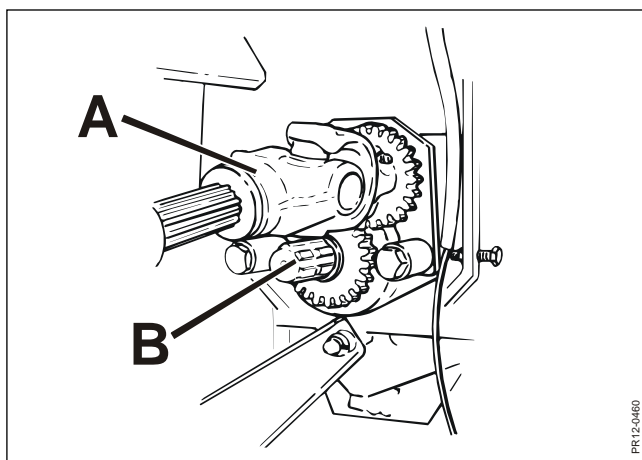

Fig. 6-9
- Fig. 6-9** 2) Move the PTO shaft **A** from the rotor to the alternative pin in **pos. 1** where the gear wheels are not in mesh. Thereby the rotor is not driven.
- Fig. 6-9** 4) After reversing disconnect the tractor's power take-off again, stop the tractor, and move the PTO shaft **A** back to the pin **B** for drive of the rotor.